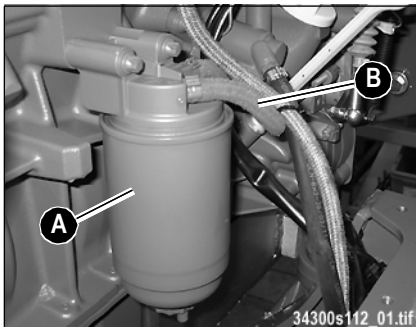

Fig. 42: Fuel filter position
- 1 Pinch off fuel feed line Fig. 42/B with a suitable tool